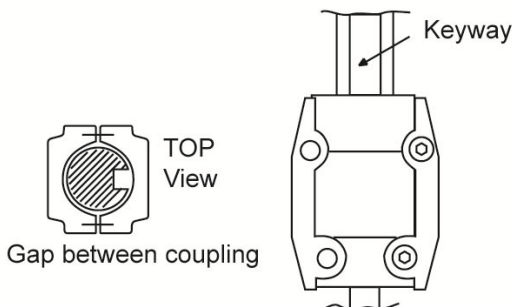

FIGURE 8. Coupling Installation
7. Check that the gaps on either side of the coupling are even, and that the motor shaft keyway is centered in the coupling half as shown in FIGURE 8.
8. Apply anti-seize to the coupling screws. Tighten the screws (finger tight) while keeping the coupling separation equal on both sides and the motor shaft keyway centered in the coupling half as shown in FIGURE 8.